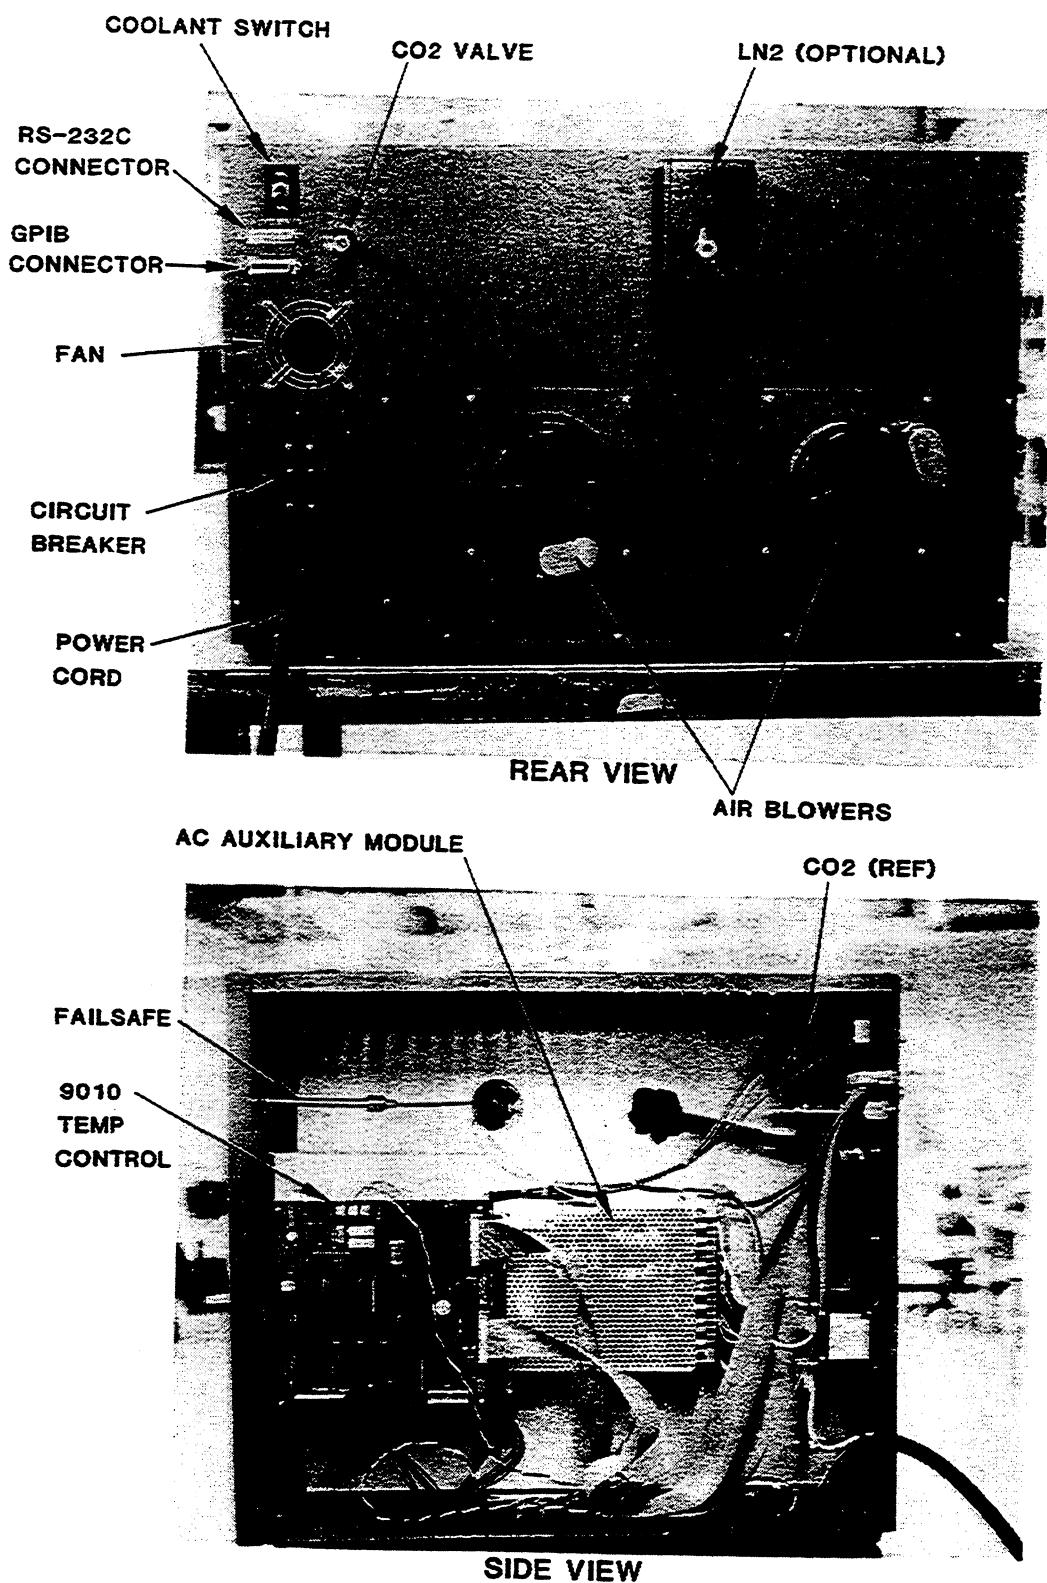

Figure 2-1. Connection Locations
1. Connect the tank of liquid CO₂ to the rear of the chamber with the high-pressure hose and fittings which are supplied (reference Figure 2-1).